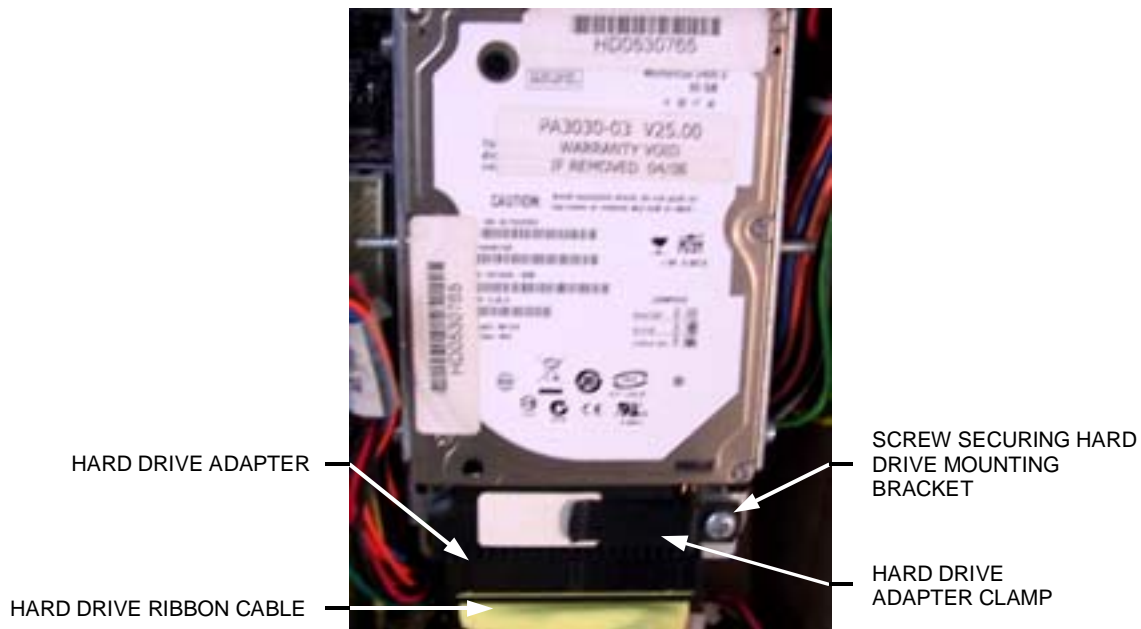

FIGURE 5 - CLOSEUP OF PATA HARD DRIVE WITH CLAMP
3. Remove the screw securing the hard drive mounting bracket to its mounting plate (see Figure 5). This screw will not be reused.
4. Remove the hard drive from its mounting plate by sliding the assembly down and off the mounting plate. Disconnect the hard drive adapter and attached ribbon cable from the hard drive (see Figure 5). Then, separate the hard drive adapter from the ribbon cable and 2-pin power cable. This hard drive adapter will not be reused.
1. Attach the 2-pin power cable in the game to the new hard drive adapter, which comes attached to the new hard drive. Do so by locating the two stand-alone pins on the hard drive adapter, and then sliding the 2-pin adapter onto these pins (for help, see the label on the hard drive adapter - see Figure 5). Note: The black wire on the power cord **MUST** be facing toward the label side of the hard drive adapter. Failure to do so could result in a damaged hard drive.
3. Slide the new hard drive assembly onto the game's mounting plate. Be sure that the hard drive is flush to the mounting plate when doing so. Both the label on the plastic of the hard drive adapter and the label on the hard drive itself should be facing out. Align the hole in the mounting bracket with the hole on the mounting plate, then secure the supplied screw, washer, and clamp to the mounting plate (see Figure 5). The clamp should rest on the hard drive adapter, holding it in place when screwed in tightly.